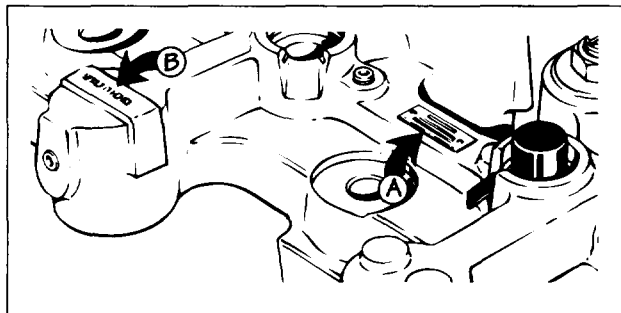

FIG. 1
Referring to Fig. 1, a nameplate (A) attached to the top surface of the housing identifies the model number, part number, front or rear housing and slave piston lash setting. The housing serial number (B) is stamped on the top surface of the center master piston boss.